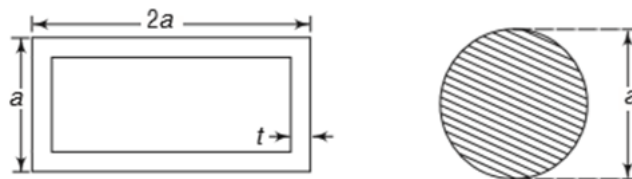

Figure 7
6. (a) A thin walled box section of dimensions  $2a \times a \times t$  is to be compared with a solid section of diameter  $a$  for Figure 7. Find the thickness  $t$  so that the two sections have [7M]